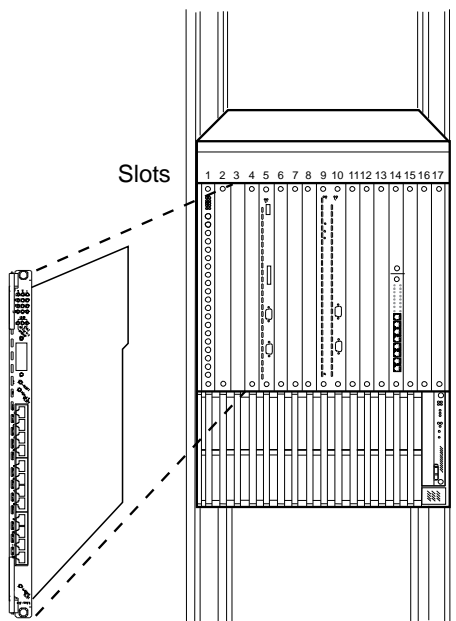
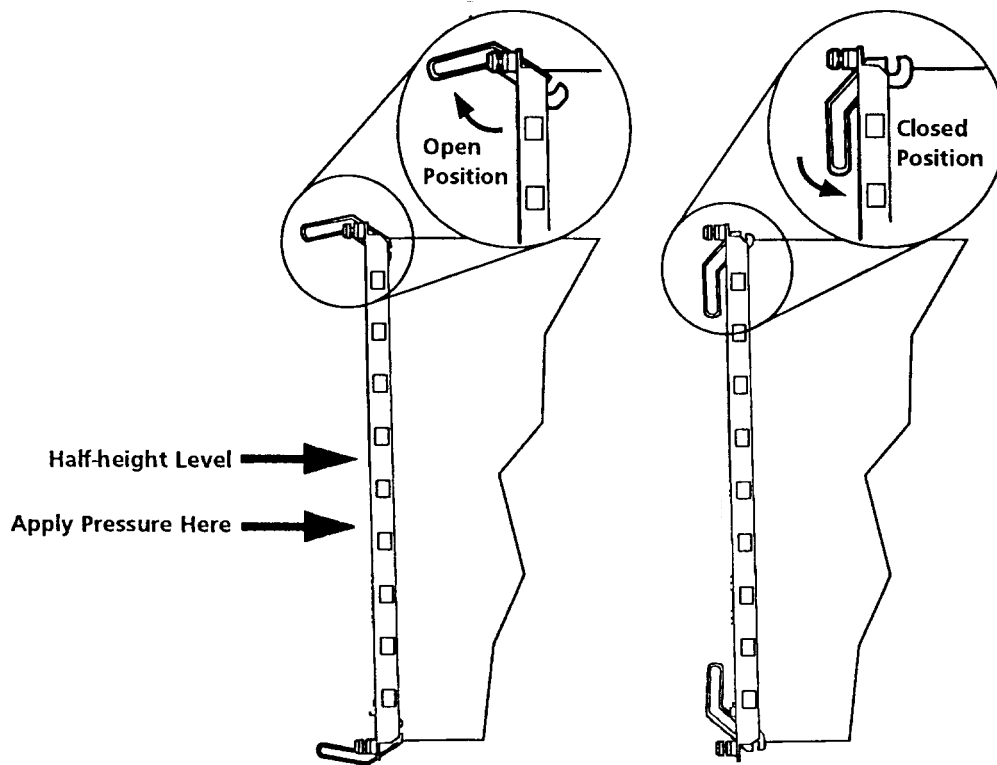

Figure 2-1. Installing the Module in an ONcore Hub
Figure 2-2. ONcore Module Ejectors
3. Insert the 6412M-25-TP module into one of the free slots in the hub as shown in Figure 2-1 on page 2-5, matching the top and bottom board guides as you slide the module cleanly into place (by pressing evenly on the top and bottom of the faceplate). Do not attempt to push the module all the way into the hub until you have verified that the top and bottom module ejectors are OPEN (see Figure 2-2 on page 2-6.)